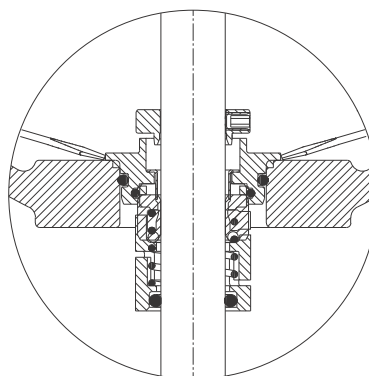

Fig. 1 Removing upper shaft seal
5. Remove screws (pos. 58a) and retainer (pos. 58).
6. Clean end of shaft (pos. 51).
7. Slacken set screws (pos. 113) of shaft seal (pos. 105).
8. Carefully press shaft seal out of pump head (pos. 2) using two slot screwdrivers, and pull it off the shaft. See fig. 1.